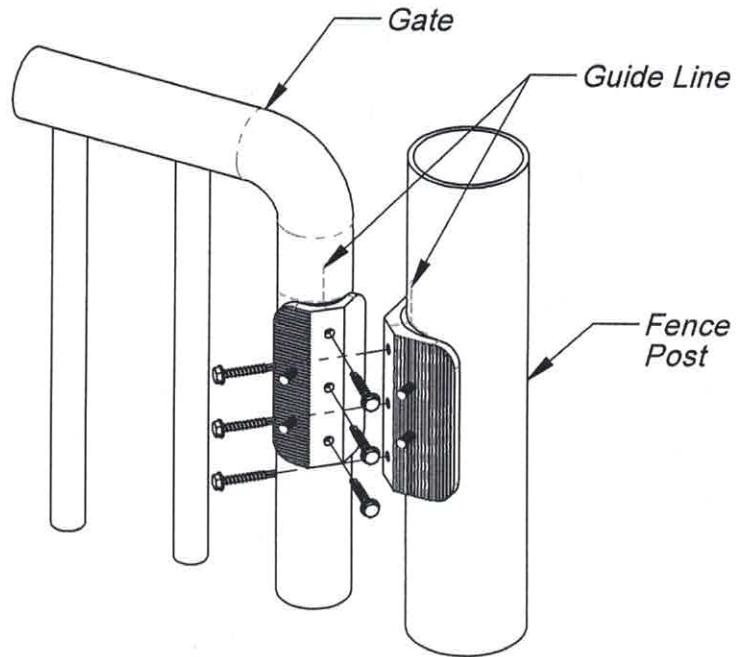
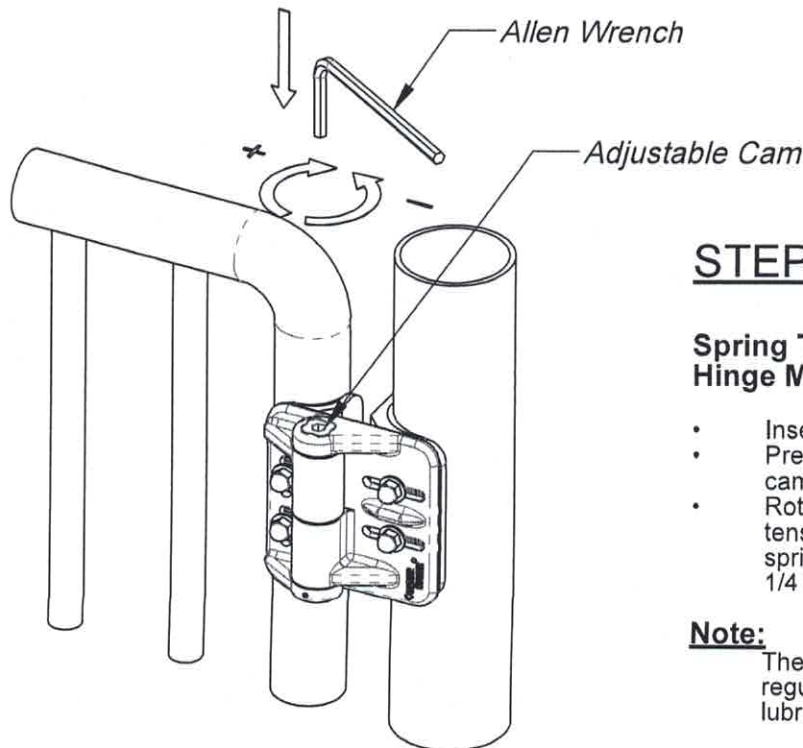

Fig. 3
Fig. 4
- 2 The brackets should be positioned on the outside surfaces of the posts with the gate in the closed position (Figure 3). The top edge of the upper hinge should be mounted within 6" of the top surface of the top rail, and the bottom edge of the lower hinge should be mounted within 6" of the lower surface of the lower rail (Figure 4). In applications where additional hinges are used, they should be evenly spaced between the upper and lower hinges. The mounting brackets with horizontal locking grooves are for the vertically adjustable side of the hinge, while the brackets with the vertical locking grooves are for the horizontally adjustable side of the hinge.
With guide lines marked in gate, fence post and back plates, proceed to detach both back plates from hinge. Using each back plate as a template, reposition it at the marked locations, mark and drill all center points of back plates, as seen on fig. 3. For easy installation we suggest to drill pilot holes; however, #10 flanged hex head self-drilling screws have been provided to fasten back plates to gate and fence post if you choose not to drill pilot holes.